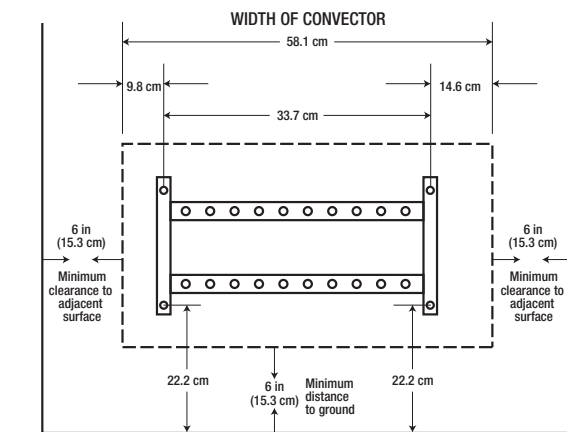

Fig. 1
- The location shall have enough space and clearance as illustrated in Fig. 1.
2. Use the mounting bracket as a template by holding it against the wall as illustrated in Fig. 1.